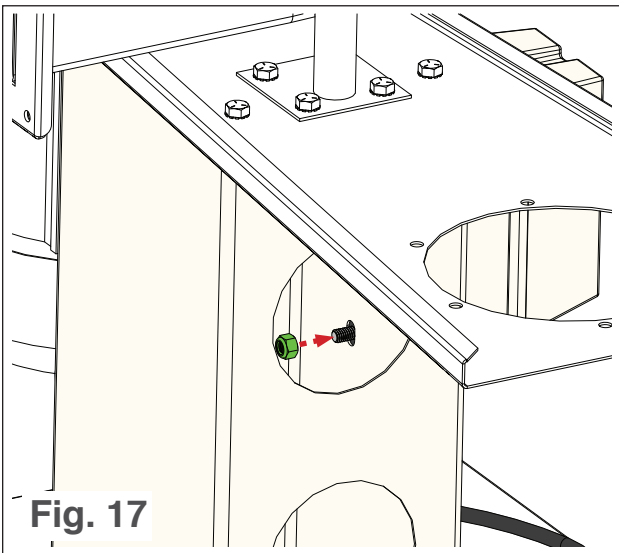

Fig. 17
3. Reaching through the two large holes in the motor support, secure the nuts over the ends of the bolts (see Fig. 17).
3. Secure the cart handle to the base plate with all eight bolts and star lock washers (see Fig. 17).